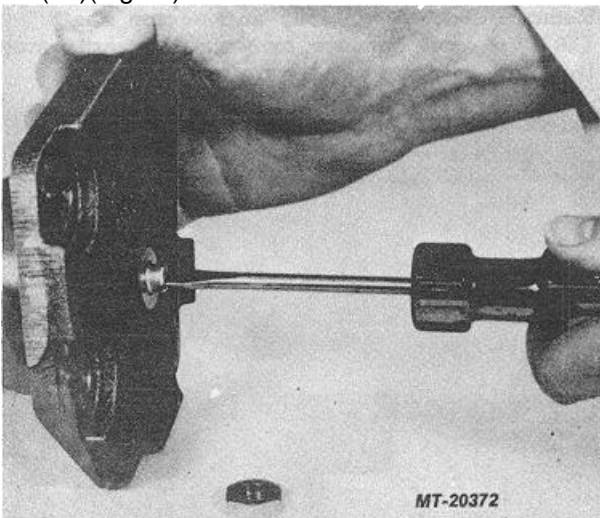

Fig. 6
5. Check to make sure all bearing (21) rolls are in place after sector shaft (50) is removed.
6. Remove sector shaft adjusting screw nut (59).
7. Screw sector shaft adjusting screw (51) thru side cover (58) with a screwdriver and remove shaft (50)(Fig. 6).